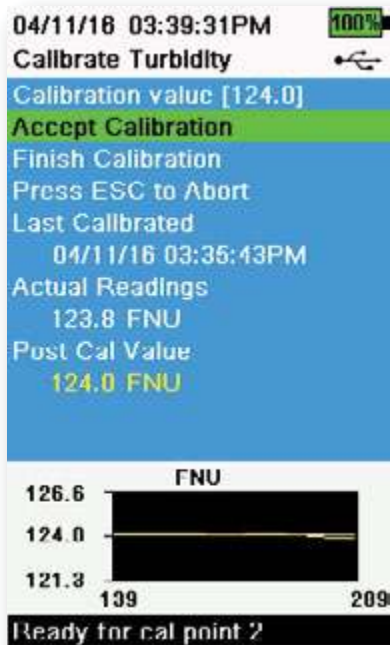

Figure 55 Calibrate Turbidity
8. Make sure there are no air bubbles on the turbidity sensor lens. Observe the actual measurement readings for stability, and then select **Accept Calibration** (Figure 55). "Ready for cal point 3" will be displayed in the message area.